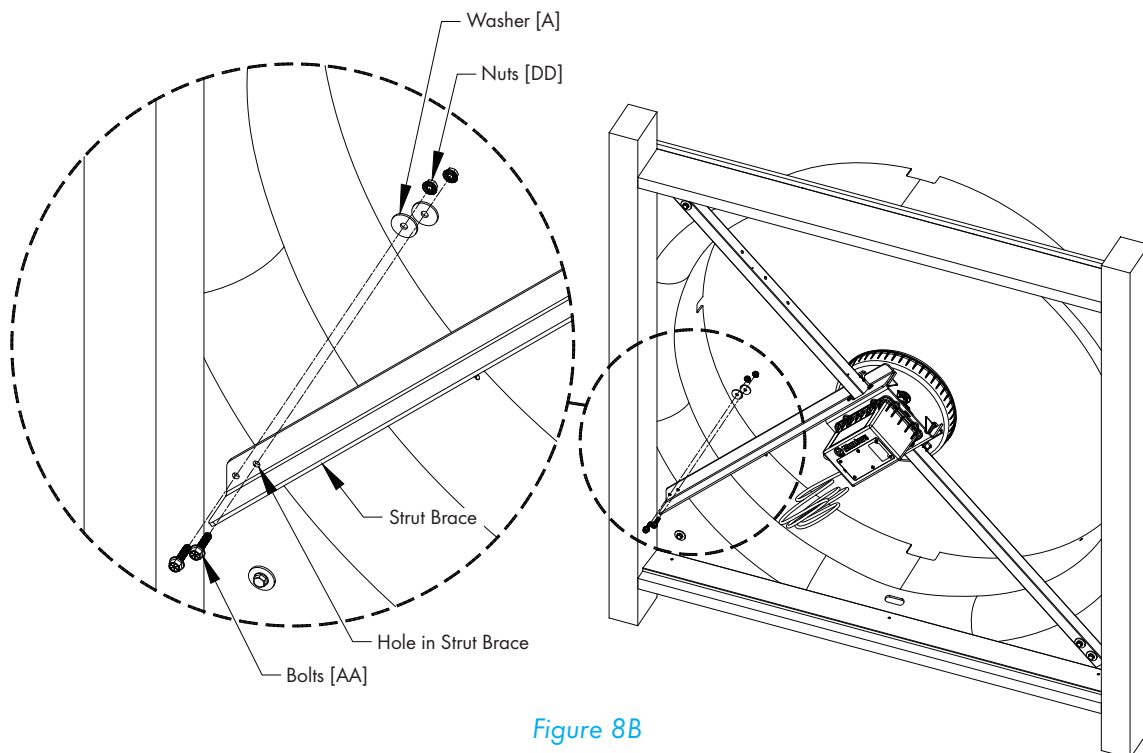

Figure 8B
Where the bottom of the Strut Brace meets the Orifice Panel, use the 2 holes in the Strut Brace as a guide and drill (2) $\frac{5}{16}$ " holes through the fiberglass Orifice Panel. Secure Strut Brace to Orifice Panel using (2) Bolts [AA], Washers [A] and Nuts [DD]. See Figure 8B.